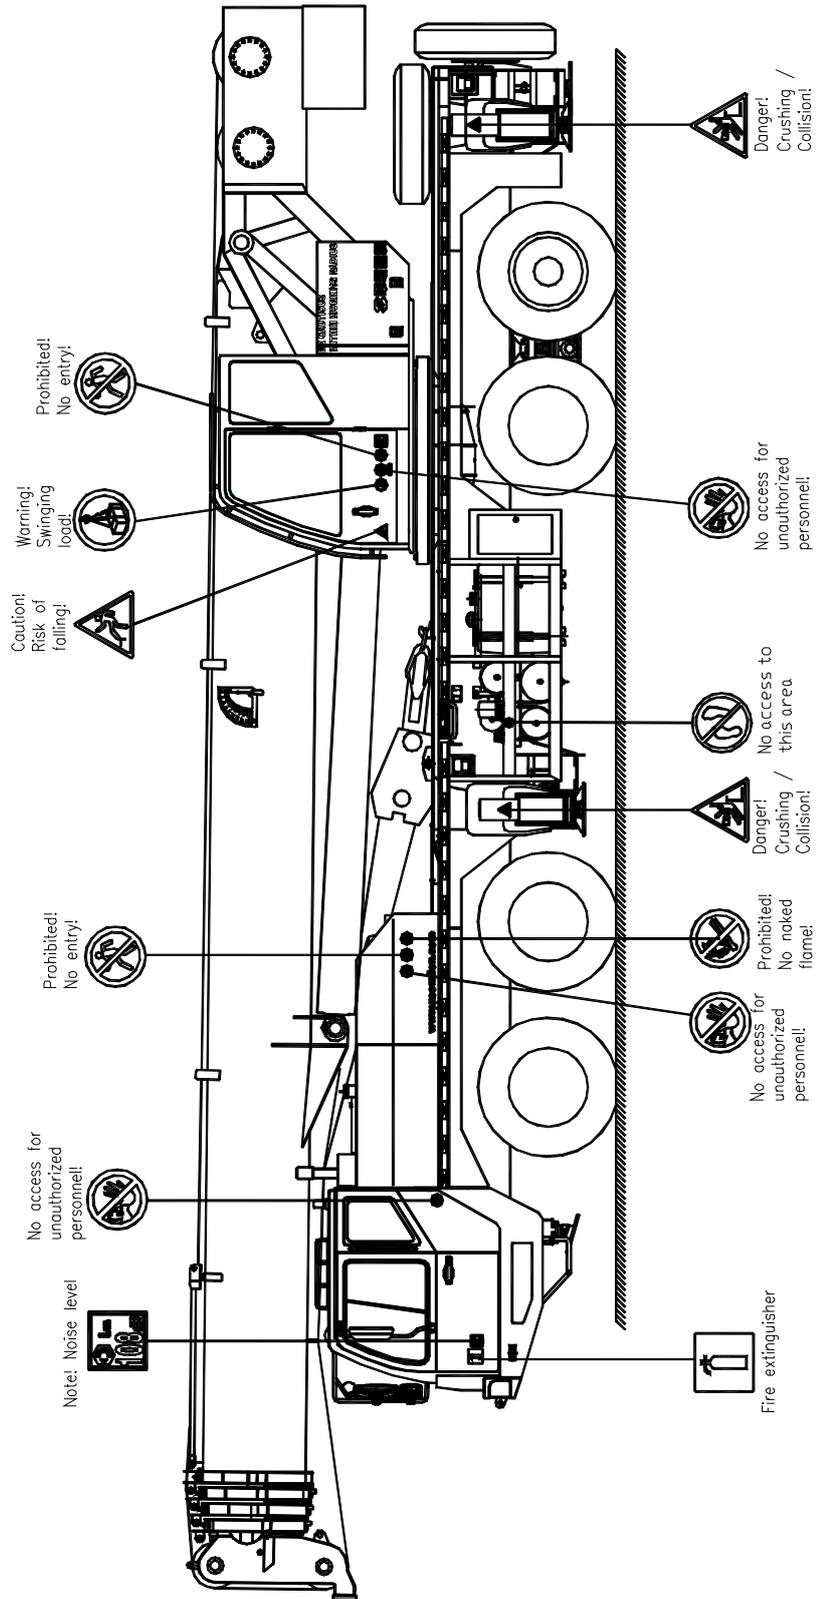

Fig. 02 - 01
- a) The locations of safety signs are as shown in Fig. 02 – 01.